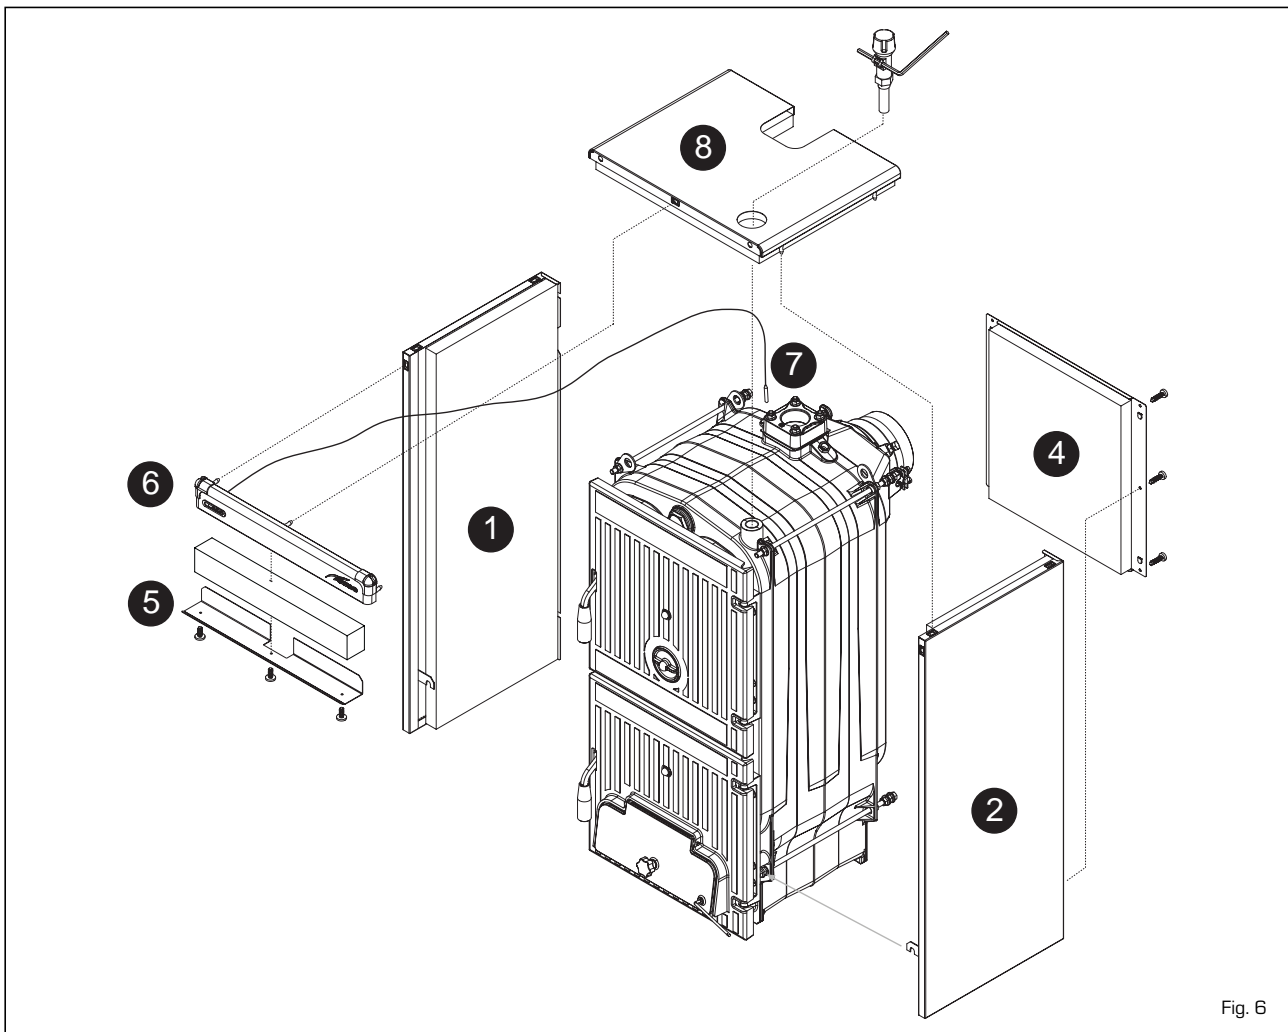

Fig. 6
- Fasten lever M6 (3) to the air gate damper placing it in a horizontal direction on the right. The lever has an opening at its end, where the chainlet of the thermostatic regulator will be connected.
**4.5 ASSEMBLING THE CASING (fig. 6)**